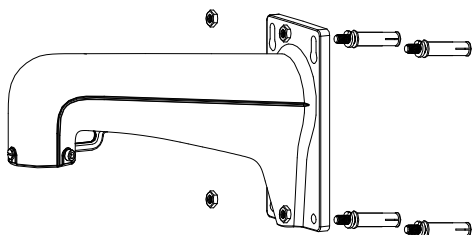
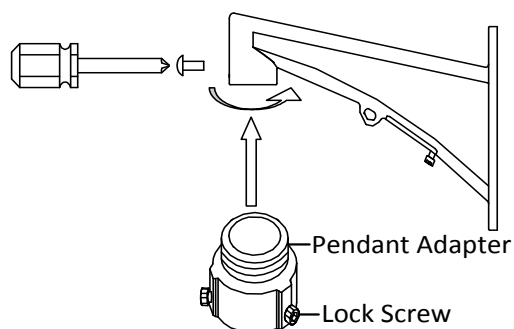

Figure 1-7 Install the Bracket
Figure 1-10 Pendant Adapter
- The bracket in Figure 1-7 is the recommended bracket for this series of speed dome, and a pendent adapter is required if any other bracket is selected. See Figure 1-10.